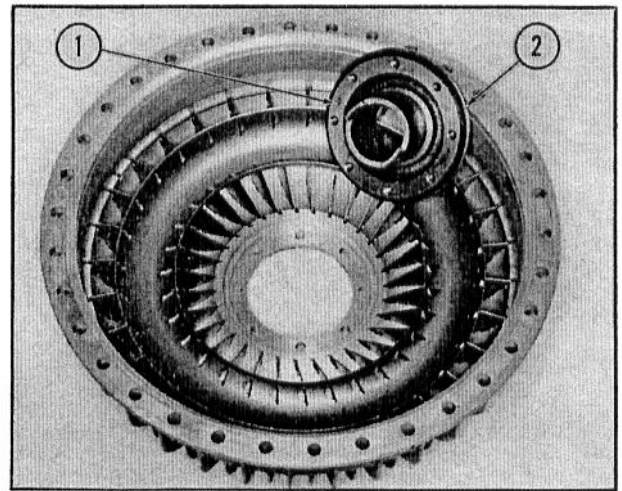

Fig. 7 - Impeller Hub Removed
1. Reassemble the impeller hub to the impeller, using a new ring seal. See Fig. 7. If the original hub is replaced, make sure the scribe marks are aligned.